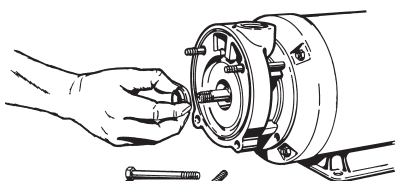

Figure 4-14
Refer to Figure 4-14. This assembly lifts out of the rotating element spring.
- e. Holding the head assembly between the thumb and index finger, with the sealing face pointing toward the stationary seat, slide the assembly over the motor shaft until it rests against the seat. Refer to Figure 4-14. A slight twisting motion will allow the assembly to slide more easily.